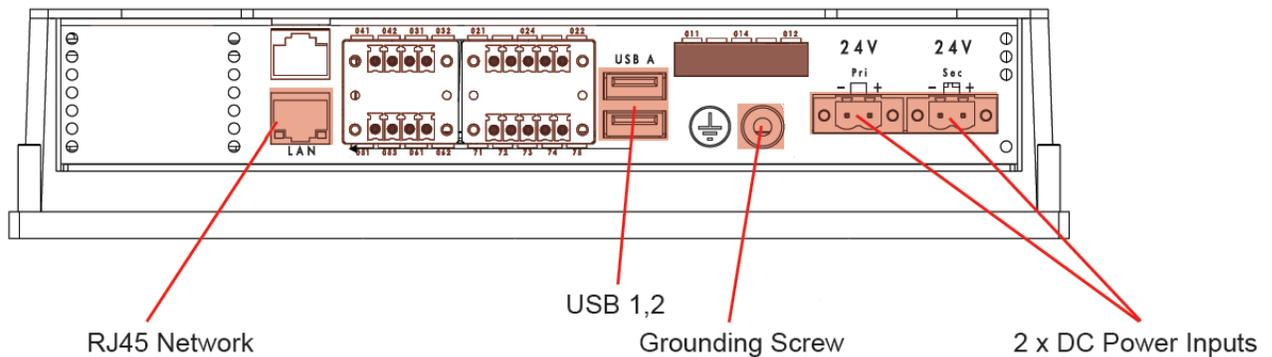

Figure 4 – TSM800C Bottom Panel
The bottom panel of the TSM800C is shown in Figure 4.
Step 1: Locate the USB connectors. The locations of the USB connectors are shown in Figure 4.